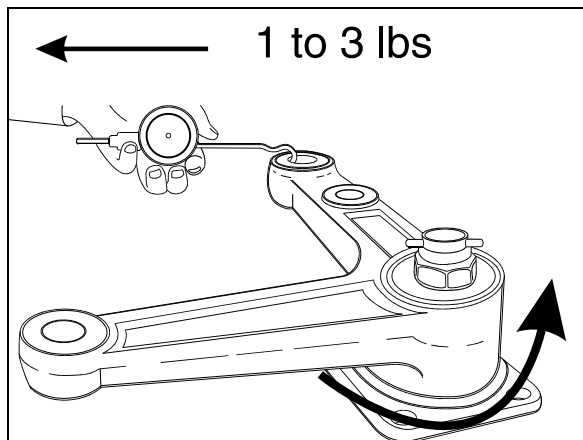

FIGURE 13: BELL CRANK
4. Unscrew nut until bell crank or idler arm starts to turn by the application of 1 to 3 pounds load (Fig. 13).